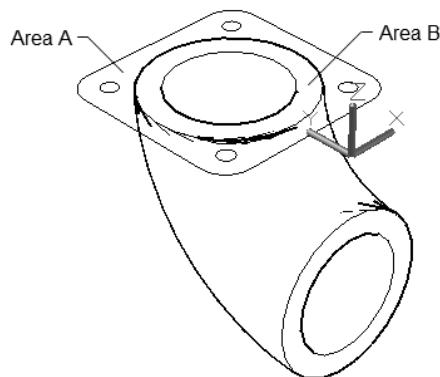

Figure 26-130 Two areas to presspull
14. Choose the **Press/Pull** tool from the **Modeling** panel and then click inside the rectangular area at the location shown as Area A in Figure 26-130. Next, move the mouse in the upward direction, enter the value **5** at the Command prompt, and press ENTER.